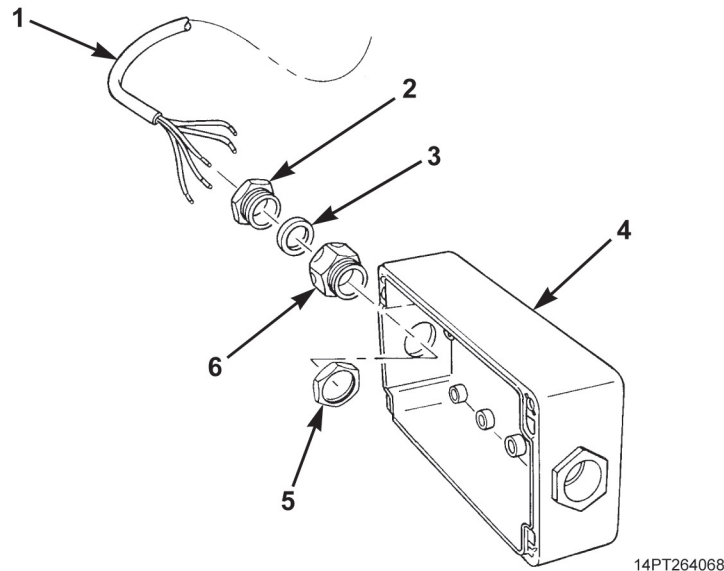

Figure 5. MCS Control Box Cable Assembly.
1. Install bushing (Figure 5, Item 6) and nut (Figure 5, Item 5) on control box (Figure 5, Item 4).
2. Install end of cable (Figure 5, Item 1), grommet (Figure 5, Item 3), and locking plug (Figure 5, Item 2).